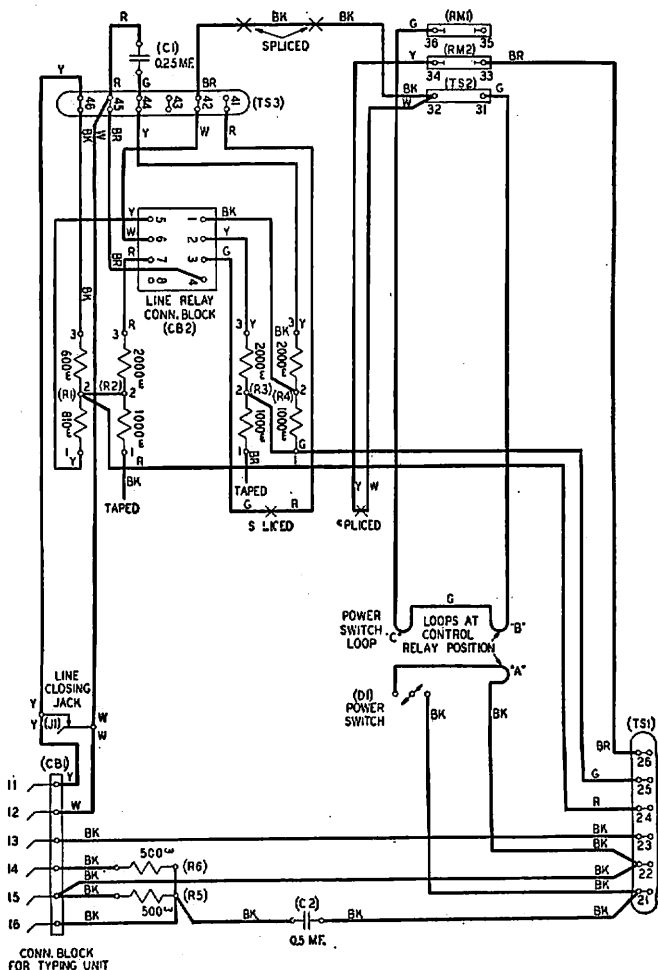

Fig. 25—Nos. 14-A and S Teletypewriter Bases and No. 14-N Typing Reperforator Base
- Fig. 25—Nos. 14-A and S Teletypewriter Bases and No.